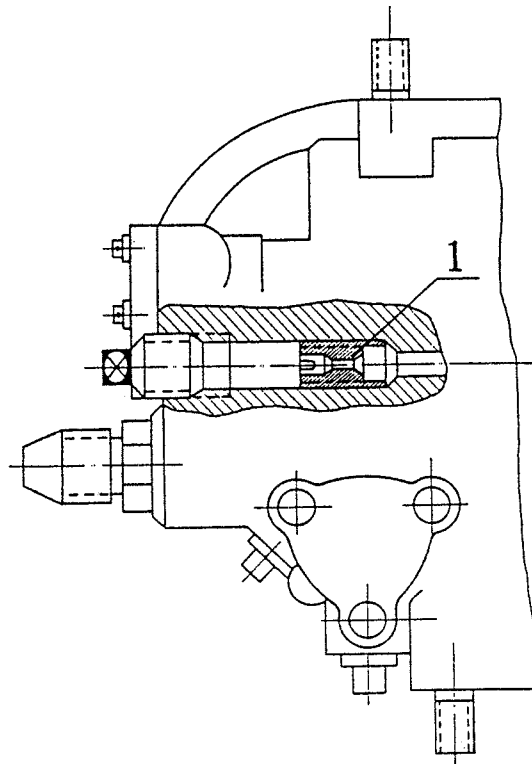

Fig. 8 Scheme of Replacing the Air Restricting Jet
a. The mixture ratio of the rated and take-off regimes may be adjusted by changing the air restricting jet with different aperture (Fig. 8).